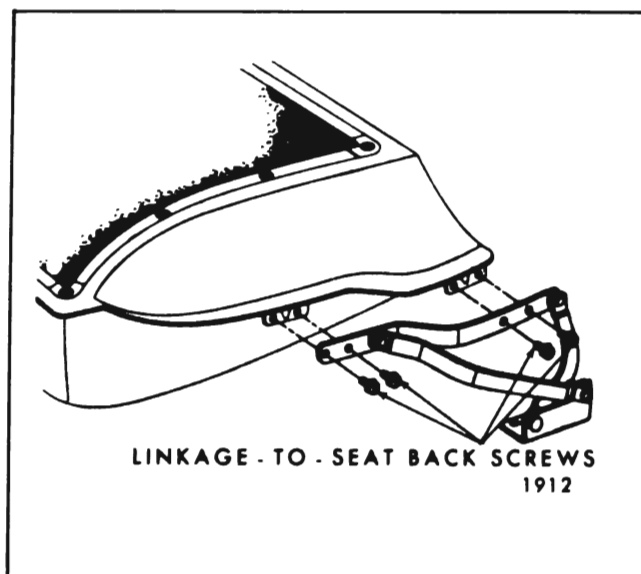
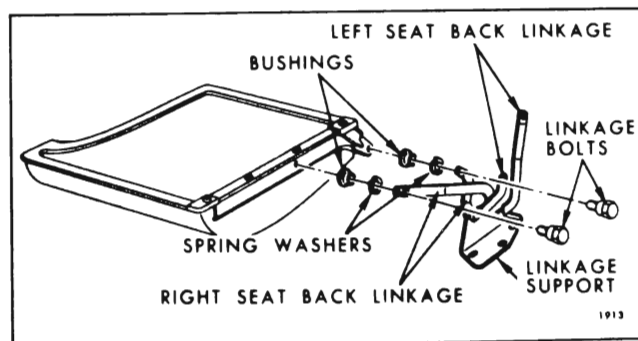

Fig. 15-58—Folding Second Seat Back Supports and Linkage (Full Width Seats)
Fig. 15-59—Folding Second Seat Back Inner Linkage and Support
4. To remove linkage from folding second seat back remove linkage-to-seat back panel attaching bolts and remove linkage - See (Fig. 15-58 for full width seat) (Fig. 15-59 for split seat).
5. To install, reverse removal procedure. If linkage was removed from split seat back, make sure bushings and spring washers are properly installed prior to installing linkage attaching bolts. (See Fig. 15-59).
2. Move folding second seat back forward just sufficiently to remove two lower linkage-to-seat back panel attaching screws. (See Fig. 15-58).
4. Remove two upper linkage-to-seat back panel attaching screws. (See Fig. 15-58).
4. Remove inner linkage-to-seat back bolts from both right and left seats (See Fig. 15-59); then carefully disengage inner linkage from seat backs and floor pan studs and remove linkage assembly.
5. To install, reverse removal procedure. Make sure bushings and spring washers are properly installed prior to installing linkage attaching bolts to both right and left seat back panels. (See Fig. 15-59).